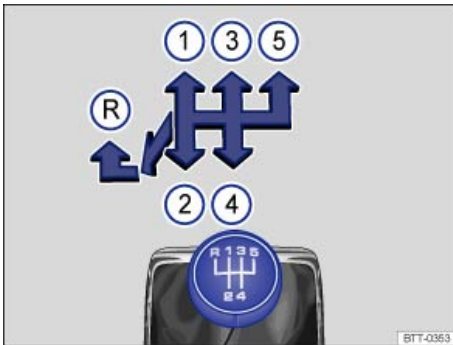
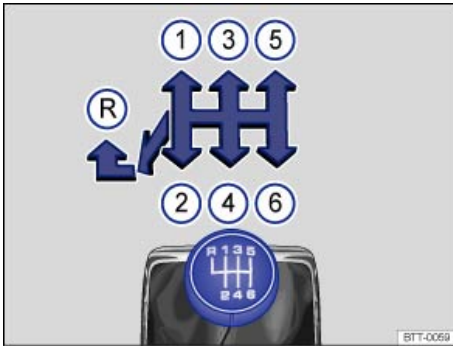

Fig. 128 Gearshift pattern of a 5-speed manual transmission.
Fig. 129 Gearshift pattern of a 6-speed manual transmission.
The positions of the individual gears are shown on the gearshift lever ⇒ fig. 128 or ⇒ fig. 129.
- Move the shift lever to the left and then push forward into the reverse gear position ⇒ fig. 128 \(R\) or ⇒ fig. 129 \(R\).